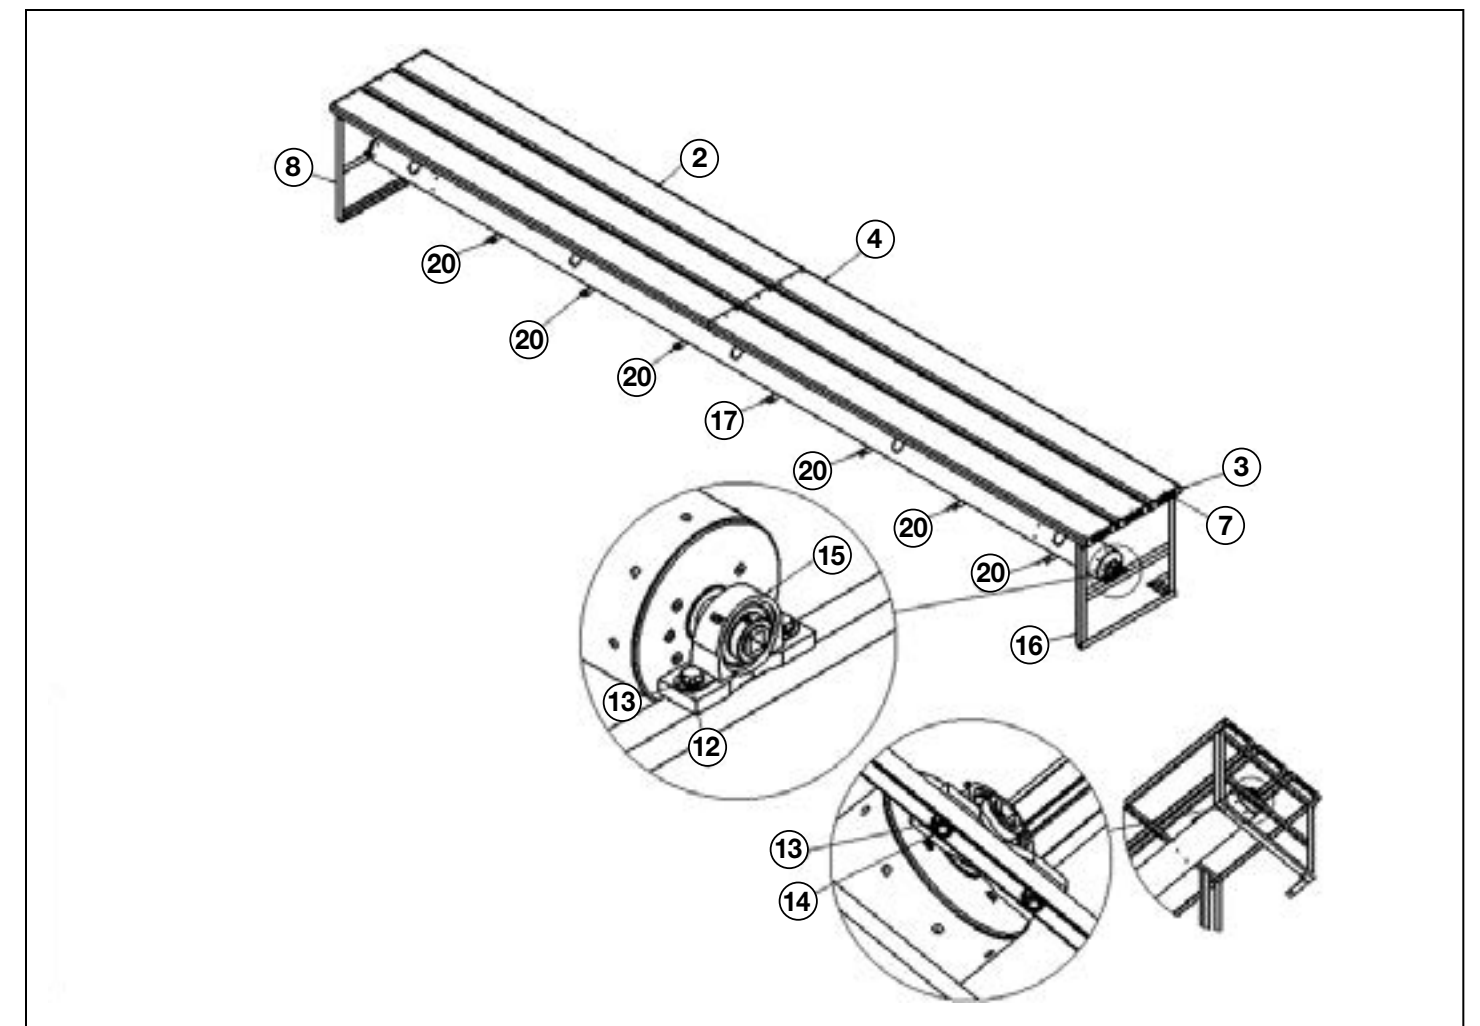

Figure 2. 50m Storage Reel
12. After letting the epoxy cure for 72 hours, lift the bench back off of the anchors. Then apply anti-seize to the threads of the anchors, thread one 3/8-16 nut onto each anchor, then place a flat washer over each nut. See Figure 2.